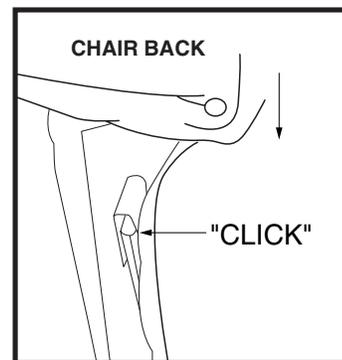

Figure 4. Position Lock
3. Push firmly on the top of the chair back to lock into position. Listen for a click on each side to ensure the chair back is locked in properly. See figure 4.